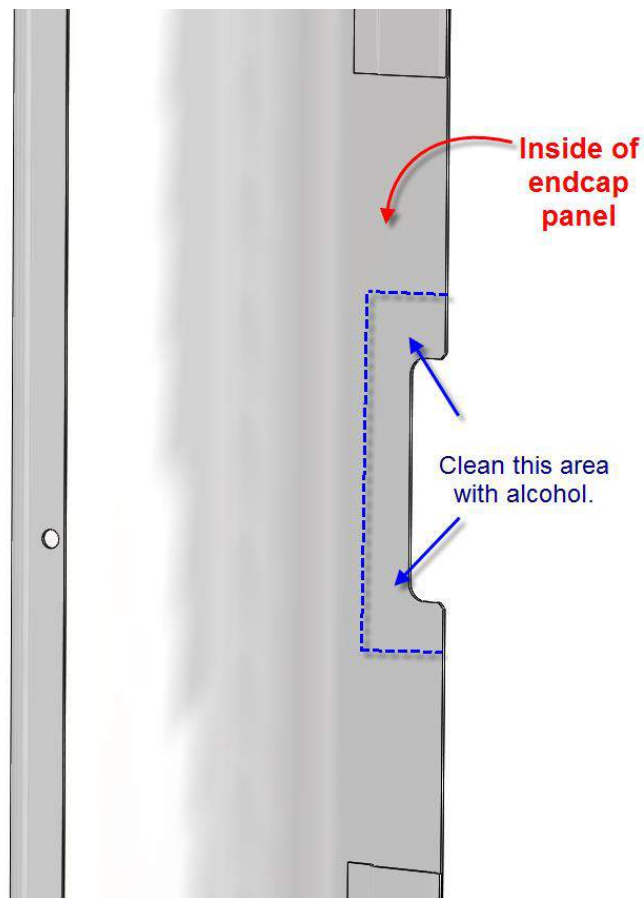

Figure 108: Clean Area with Wipe
3. Clean an area on the inside of the end cap with alcohol at the notch as shown in Figure 108.